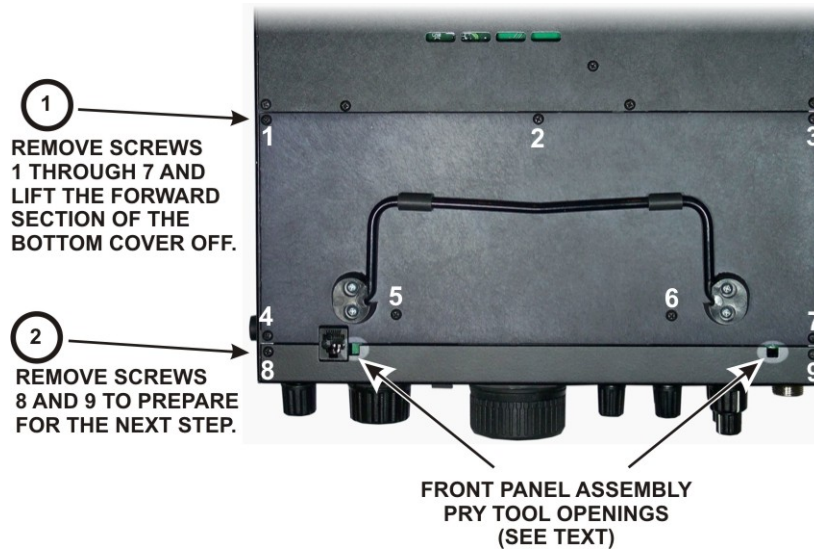

Figure 6. Removing Bottom Cover and Front Panel Assembly Screws.
Refer to Figure 6 and remove screws 1 through 7, then lift the forward section of the bottom cover off. Put it in a safe place to avoid scratches.
Refer to Figure 6 and remove screws 8 and 9 that secure the bottom of the front panel assembly.
- Replace the forward bottom cover using seven 3/16" (4.8 mm) black pan head screws (see Figure 6 on page 4).